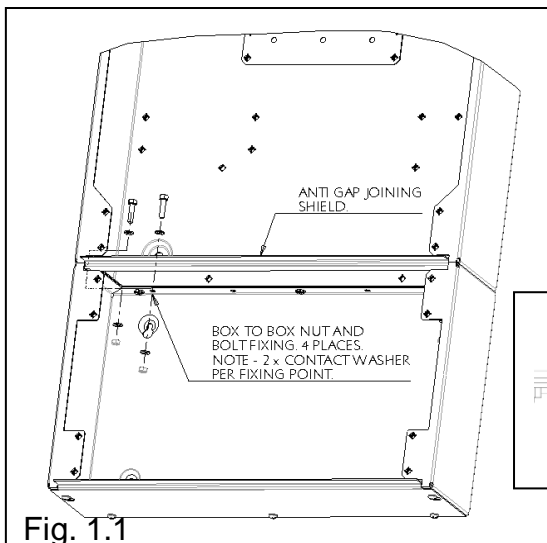
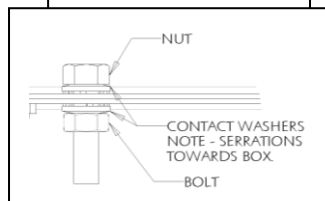

Fig. 1.1
Fig. 1.2
- Remove cover from supplied spreader box. Screw fix spreader box to wall and attach to bottom of distribution board using 4 x nut and bolt provided - NOTE – contact washers **must** be used, 2 per fixing point, see Fig.1.2. Anti gap joining shield to be used between spreader box and distribution board. Fit spreader box **BEFORE** installing CT, meter and fuse baseplates. See Fig 1.1